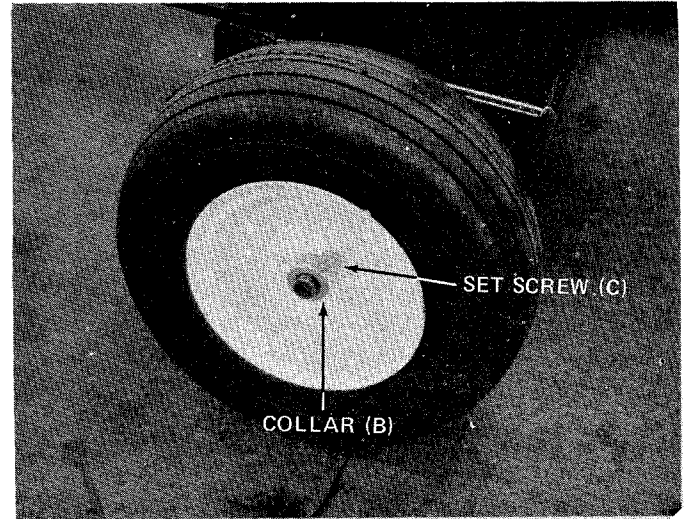

FIGURE 2
2. Place spacers (A) on axle, then wheels and secure with collars (B) and set screws (C). See figure 2.